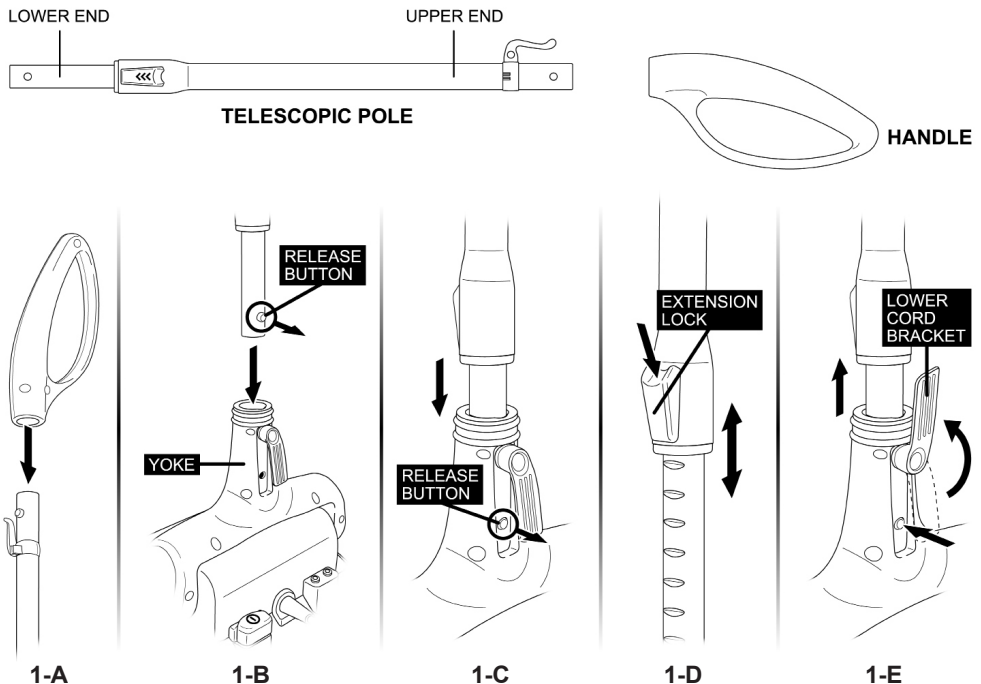

FIGURE 1
1. Connect Handle to upper (thicker) end of Telescopic Pole. To do this, simply slide Handle onto pole until it snaps in place (FIGURE 1-A).
2. Insert lower (thinner) end of Telescopic Pole into yoke on top of Mop Head. When inserting, make sure release button located on pole faces towards back side of yoke as illustrated (FIGURE 1-B).
3. Press Telescopic Pole into yoke until release button snaps through small hole on back side of yoke (FIGURE 1-C). Telescopic Pole should now be secured to Mop Head.
4. To adjust length of Telescopic Pole, press Extension Lock downward. While holding lock down, move the upper section of pole until it is at the desired length (FIGURE 1-D). Release lock, then adjust upper section of pole again until it "clicks" securely into place.
5. To disconnect Telescopic Pole, swivel lower Cord Bracket 180° upward, then press firmly on release button while simultaneously pulling pole away from Mop Head yoke (FIGURE 1-E).